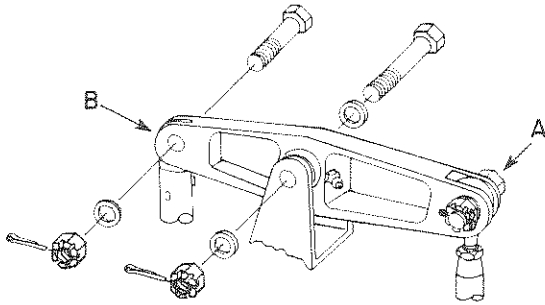

FIGURE 1
2. Upper push rod bushing and spacers worn excessively (ref. Figure 1, Item B).